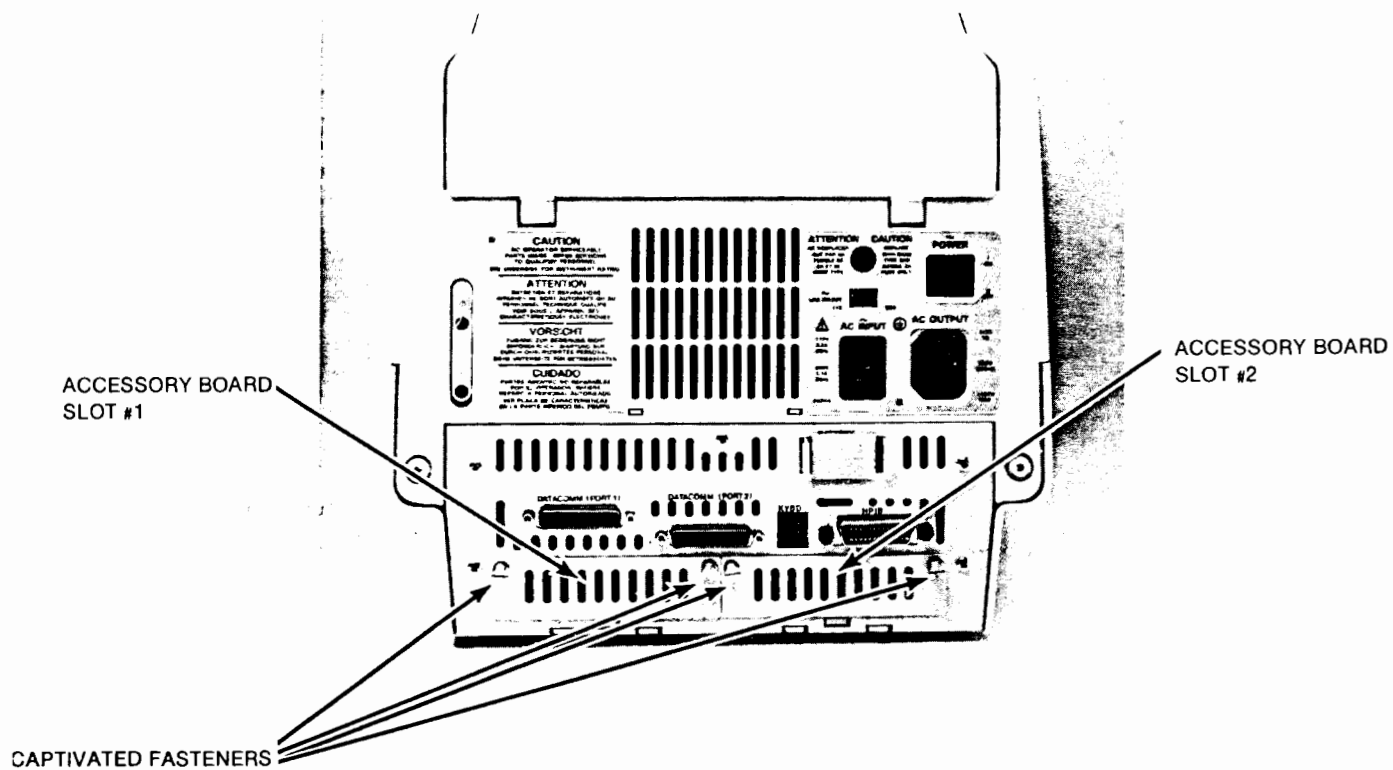

Figure 8-1. HP 150 Rear View
1. Remove the accessory cover plate at the rear panel of the HP 150 by unscrewing the cover's captivated fasteners (see figure 8-1).